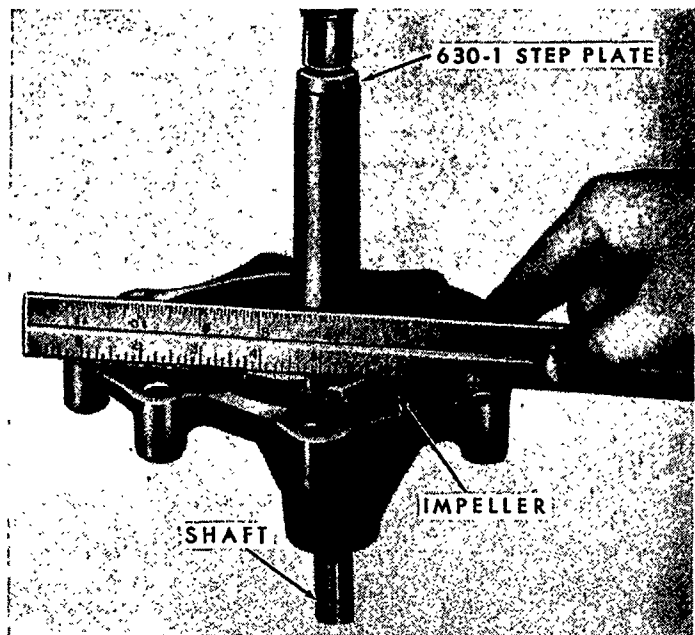

Figure 88
4. Support the shaft on a block of wood so as not to damage its end. Using the arbor press, $\frac{3}{4}$ in. (19.050 mm) I.D. gas pipe, and No. 630-1 Step Plate, press the impeller onto the shaft, Figure 88, until it is flush with the rear face of the housing. Check with a straight edge across the housing and impeller vanes to ensure correct final position.